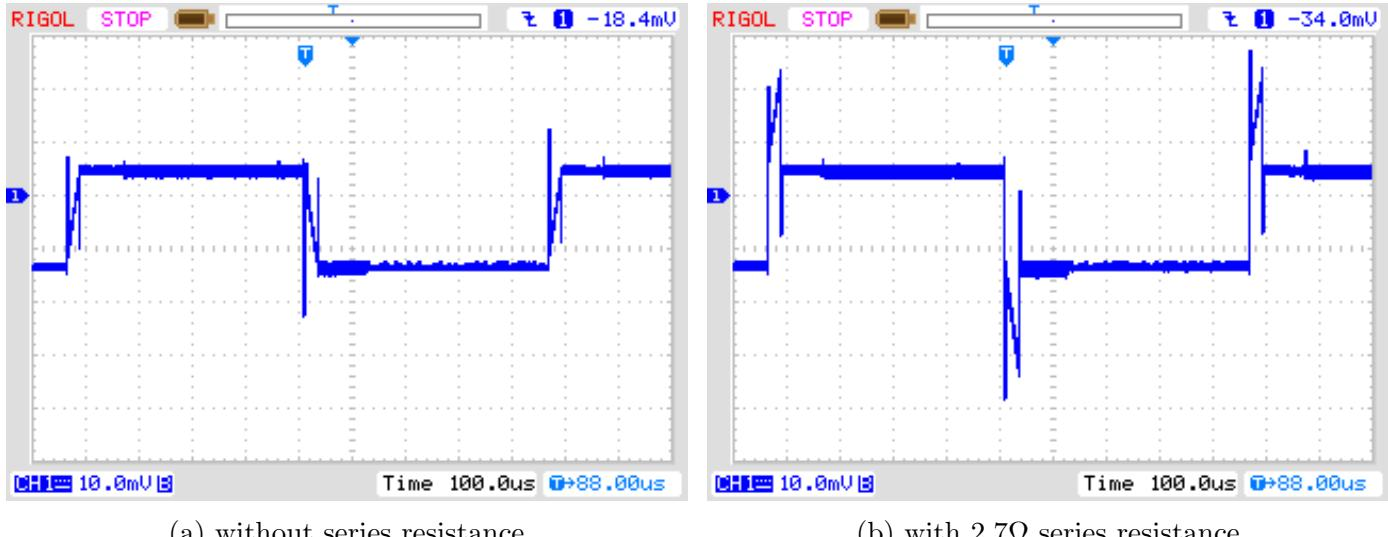

Figure 5.41. Voltage curve of a  $10\mu F$  capacitor during new ESR measurement
Due to the shorter load puls not only the ESR of capacitors with lower capacity can be measured, but this way of measurement can also be used for the measurement of resistors with little resistance, if they don't have a detectable inductance. By doing that, a resolution of  $0.01\Omega$  for this resistors can be achieved. Also the zero resistance can be detected by the calibration part of the selftest for all three test pin combination. You should keep in mind, that stable plug sockets or clamping connectors are essential for stable results. The measurement periode is about  $900\mu s$ , which results to a frequency of about  $1.1kHz$ . Because the load pulse is very short, the measurement result is comparable to measurements with  $10kHz$ . A measurement example with a  $10\mu F$  foil capacitor, once measured alone and once measures with a  $2.7\Omega$  series resistor is shown in figure 5.41. You can see the effect of the additional resistance by comparing both diagrams. You can see also, why the ADC measurement (SH) should point to the middle of the load pulse. With big capacity values the load current is nearly stable during the total pulse length, so you will get the middle voltage at the middle time of the load pulse. With lower capacity values you will get a significant difference, which can be compensated by the known capacity value.